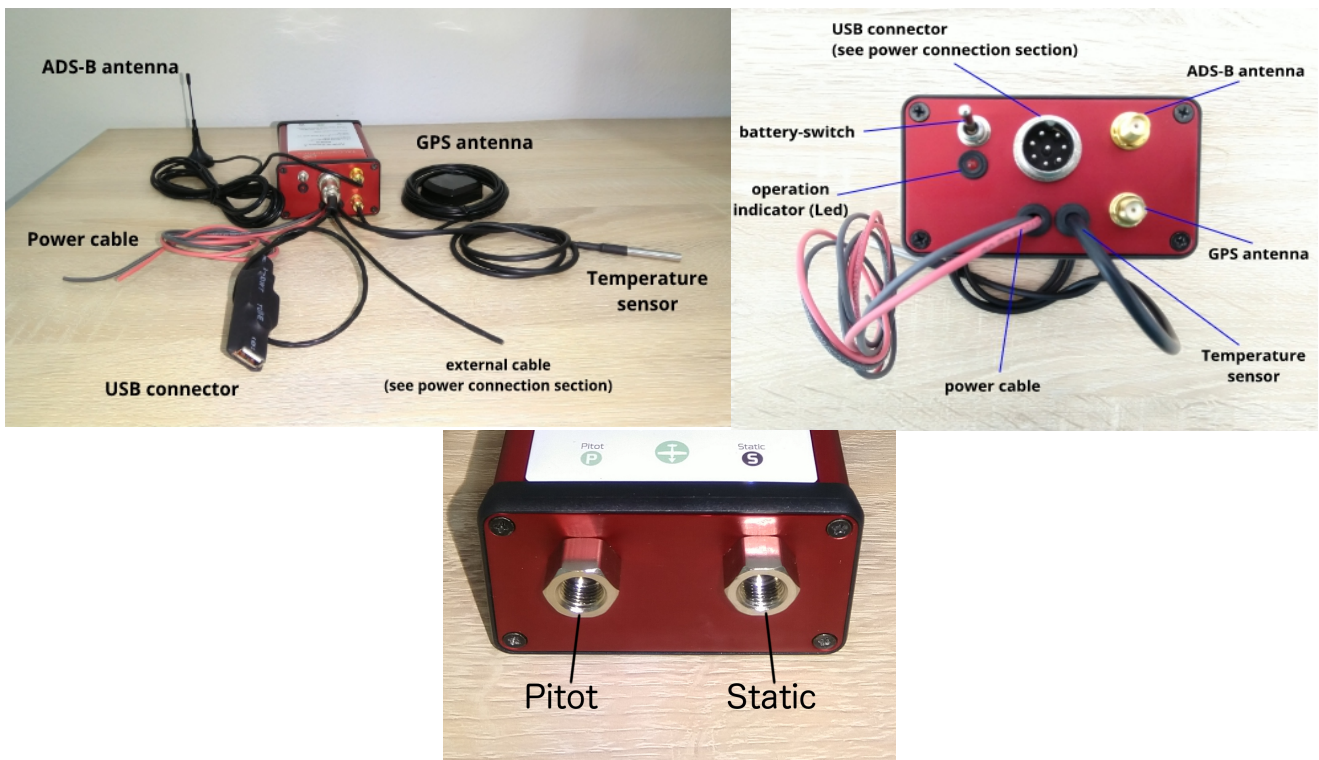

Fig. 1. AEOLUS-SENSE 4(T) ADS-B image.
The AEOLUS-SENSE 4(T) ADS-B is shown in Fig. 1. It is a portable device that comes together with a GPS antenna and an ADS-B antenna, and optionally with a USB adaptor for cable connection to a smart mobile device (tablet or smartphone). AEOLUS-SENSE 4(T) ADS-B includes a dual-band (978 MHz and 1090 MHz) ADS-B receiver for traffic and weather information.
The AEOLUS-SENSE 4(T) ADS-B (Fig. 1) should be mounted in a convenient dry place, as far away as possible from heat sources. A suitable mounting location is the top of the instrument panel. You can mount the unit by means of double sided adhesive tape or Velcro. Please ensure that the unit doesn't move during flight.
The AEOLUS-SENSE 4(T) ADS-B comes together with a GPS antenna and an ADS-B antenna. Both antennas should be connected as shown in Fig. 1 and mounted with double sided adhesive tape or Velcro, in a free-to-sky location for optimal signal reception.